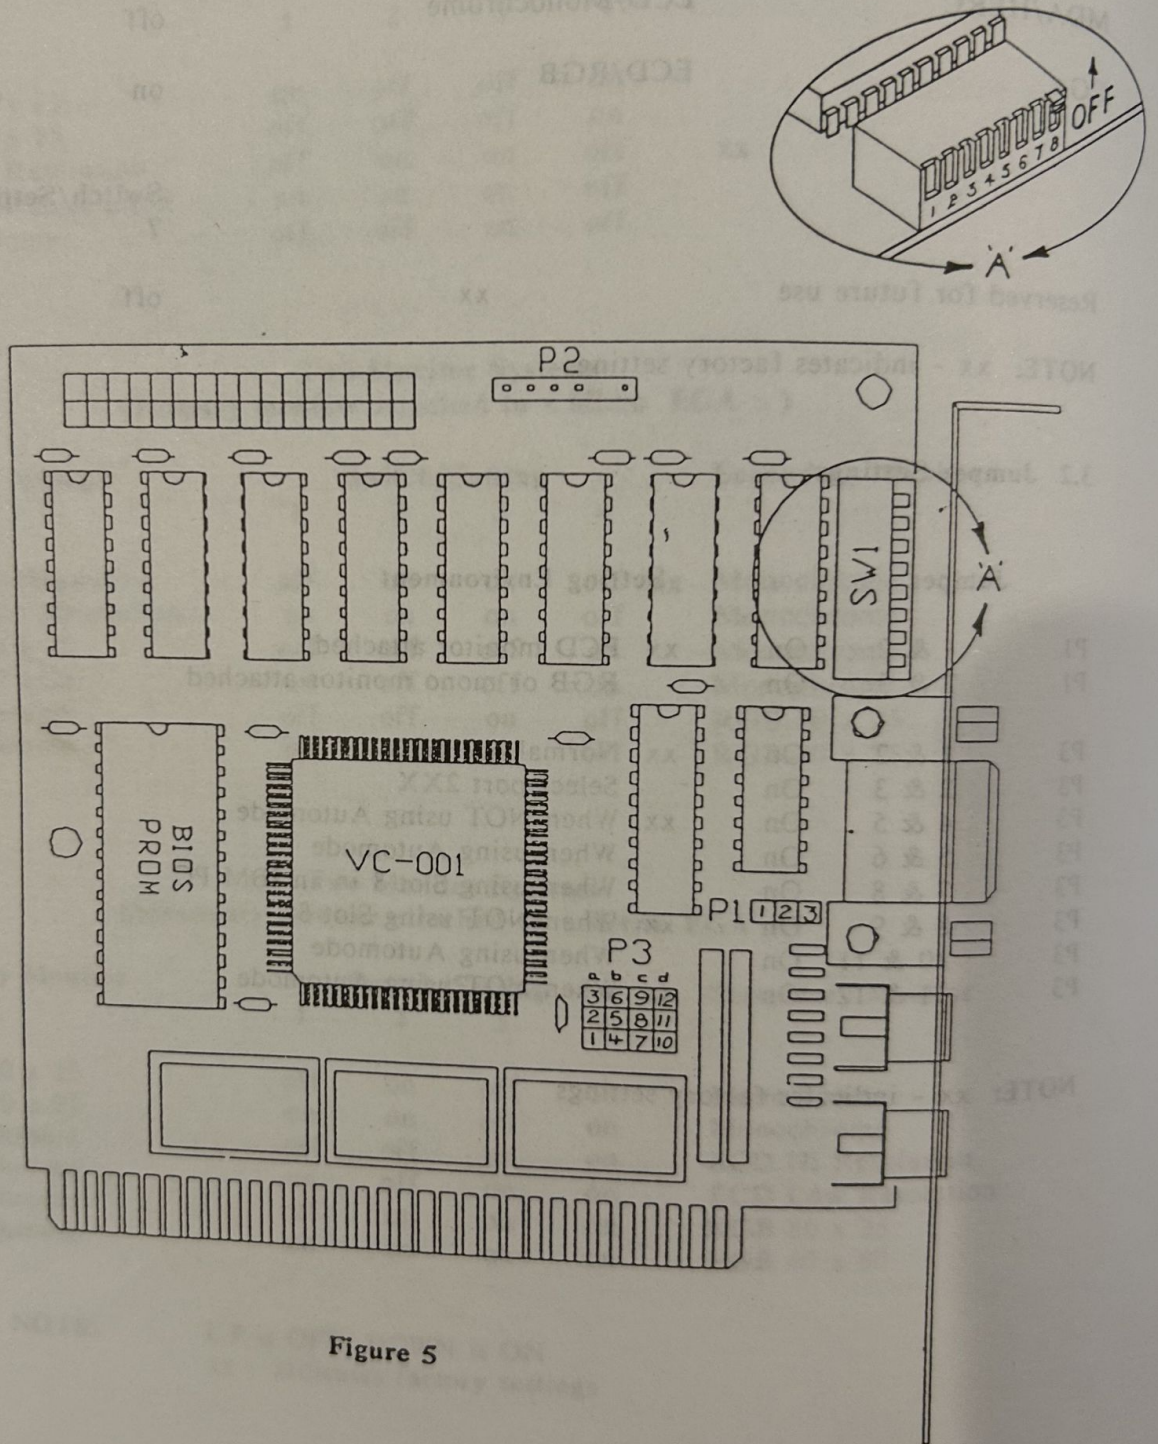

Figure 5
- Set SW1, P1 and P3 according to the tables below. (See Figure 5 for location of SW1, P1 and P3)